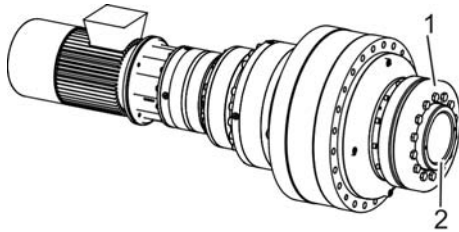

Fig. 38: Gearbox with output side shrink disc
1. ➔ If the gearbox has an output-side hollow shaft (Fig. 38/2) for a shrink disc (Fig. 38/1), when mounting the shrink disc also comply with the instructions in the documents provided by the manufacturer.